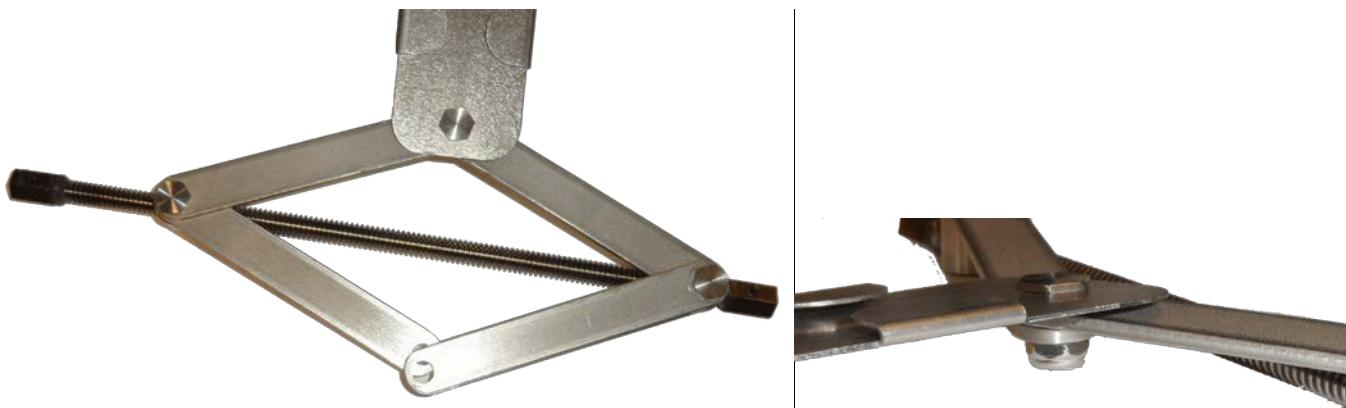

Figure 11. Attaching the Scissor Jack to the Pipe Ring
- Attach one side of the Scissor Jack arms through the hole at the end of the Pipe Ring with the double slots (Figure 11).